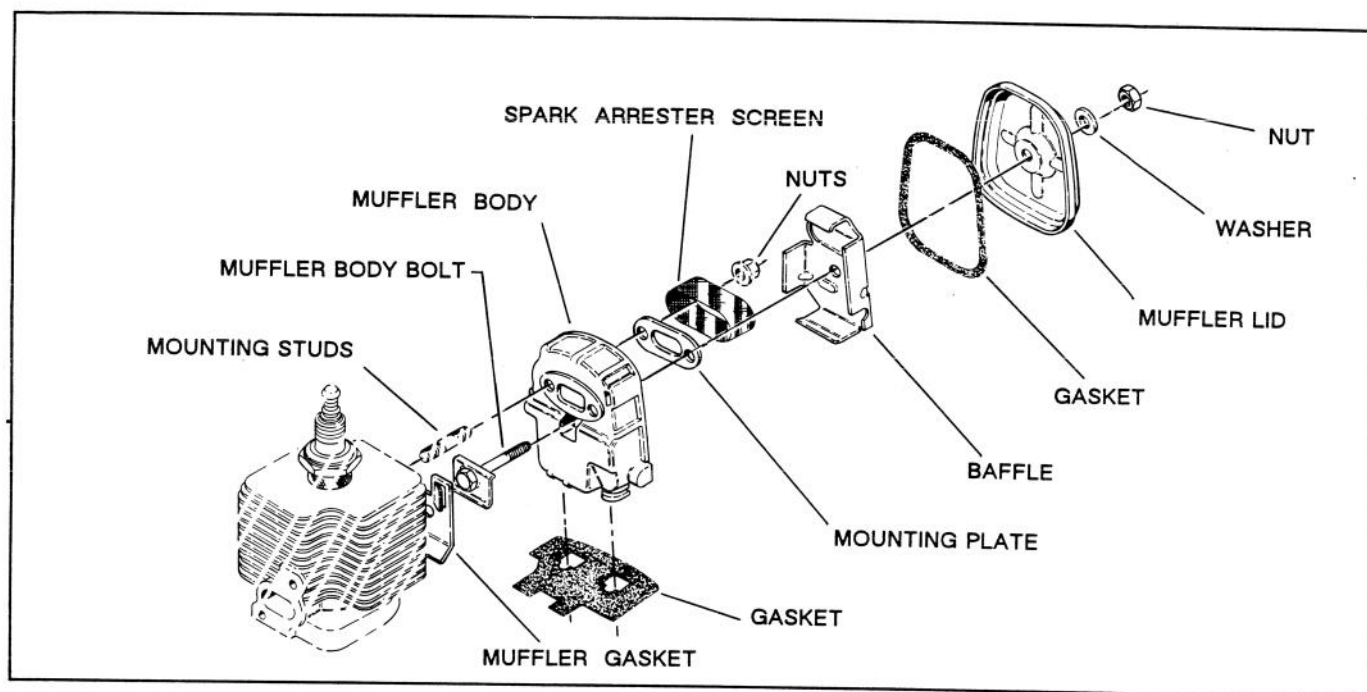

Figure 2
4. Install new muffler gasket on mounting studs (Fig.2).
5. Install new gasket to bottom on new muffler body (Fig.2).
6. Insert new muffler body bolt thru muffler body as shown in fig.2 and secure muffler body to trimmer with mounting plate and (2) nuts previously removed.
7. Insert spark arrester screen and baffle into muffler body as shown in fig.2. Make sure screen is properly aligned with baffle.
8. Install new gasket and muffler lid to muffler body with washer and nut (Fig.2).
3. Make sure gaskets are usable (replace, if necessary) (Fig.2).